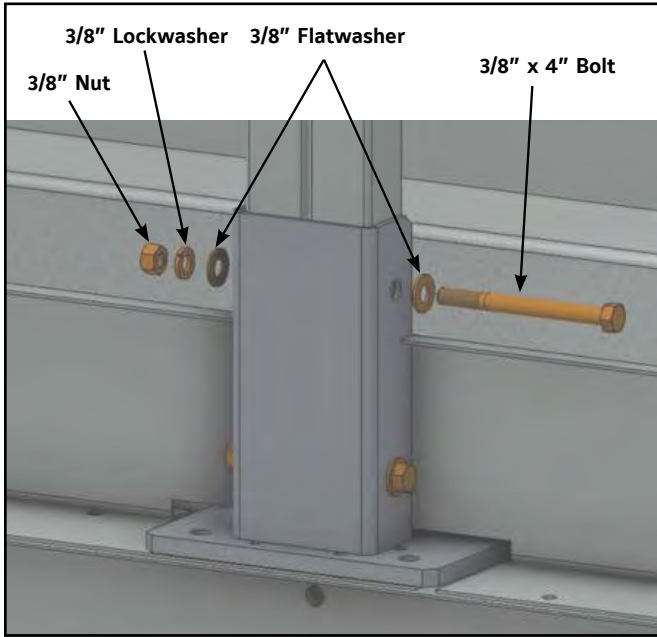

Figure 32 – Top Perimeter Guardrail Post Attachment
1. Secure the individual rail segments to the factory installed post brackets using the 3/8" x 4" bolts provided. See the following Figures and the accompanying rail length tables to determine the correct location for each rail segment. See Figure 32 for the post attachment detail.